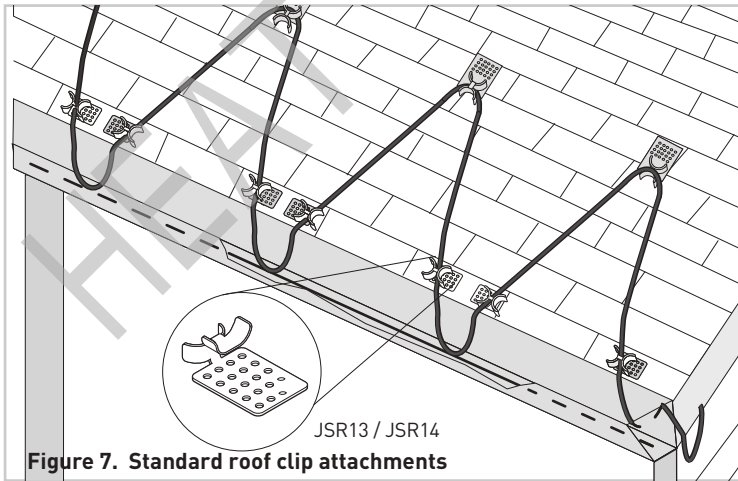
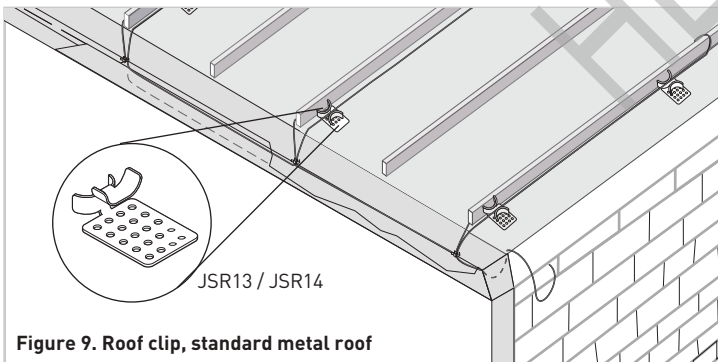

Figure 7. Standard roof clip attachments
Figure 9. Roof clip, standard metal roof
- Roof clips may be attached to a shake or shingle roof with nails or screws as shown in Figure 7. Roof clips may be attached to a metal roof using screw, nail or adhesive as shown in Figure 9. (See installation instruction for more details.) Reseal the nail or screw holes if necessary before installing heating cable in the clips.